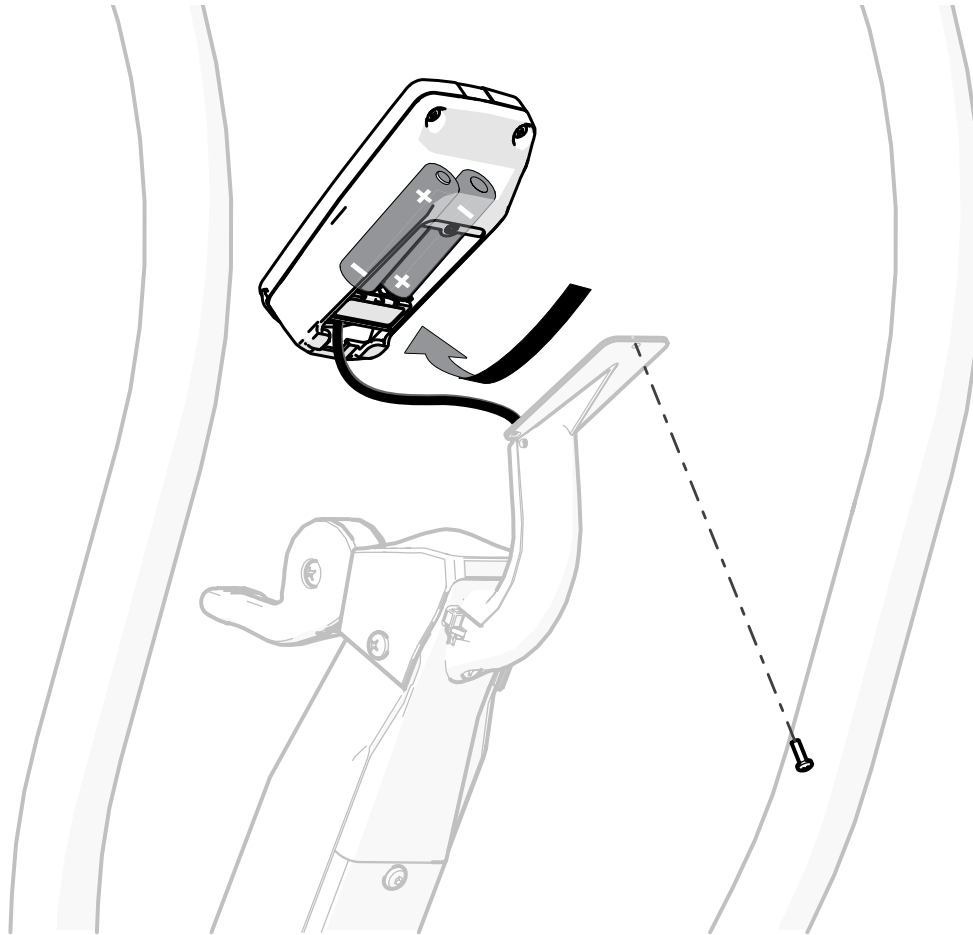

Figure 18. TBT Battery Replacement
1. Remove the screw that secures the Computer Display to the Mount using a #1 Phillips screwdriver (refer to Figure 18).